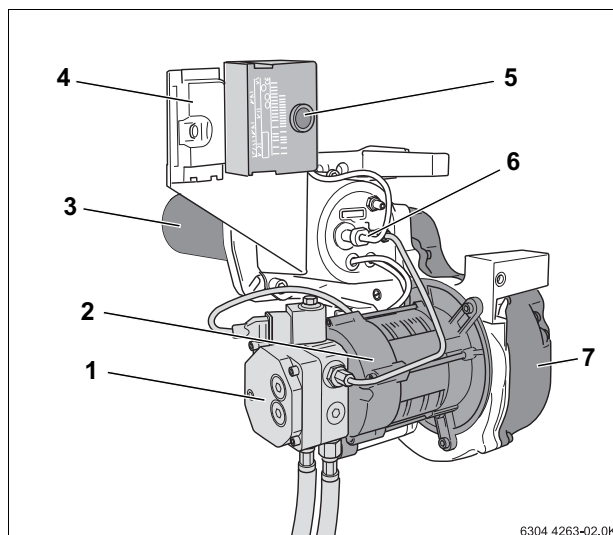

Fig. 1 Logatop BE 1.3 GB and 2.3 GB burner
- Oil pump with solenoid valve and oil connection hoses (Fig. 1, **Item 1**)
- Burner motor (Fig. 1, **Item 2**)
- Burner tube (Fig. 1, **Item 3**)
- Burner controller with reset button (Fig. 1, **Item 5**)
- Flame sensor (Fig. 1, **Item 6**)
- Blower fan (Fig. 1, **Item 7**)
The burner (Fig. 1) must be properly connected to the controller (see boiler documentation) by means of a connector (7-pin burner connector).